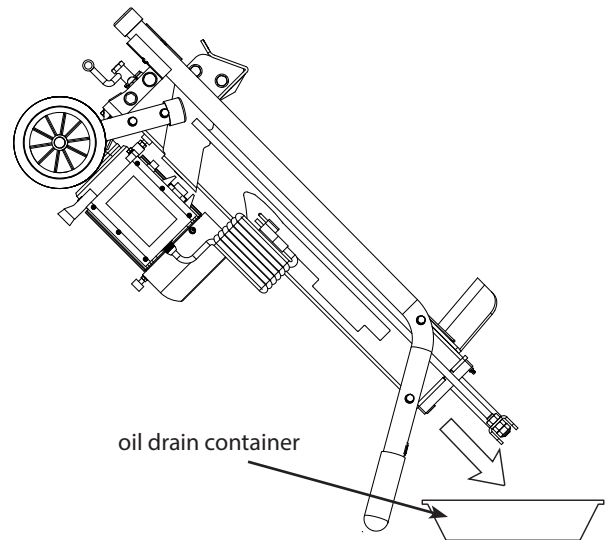

Figure 10
3. Turn the log splitter over on the support leg side using a one gallon or larger capacity container to drain the hydraulic oil. **(SEE FIGURE 10)**